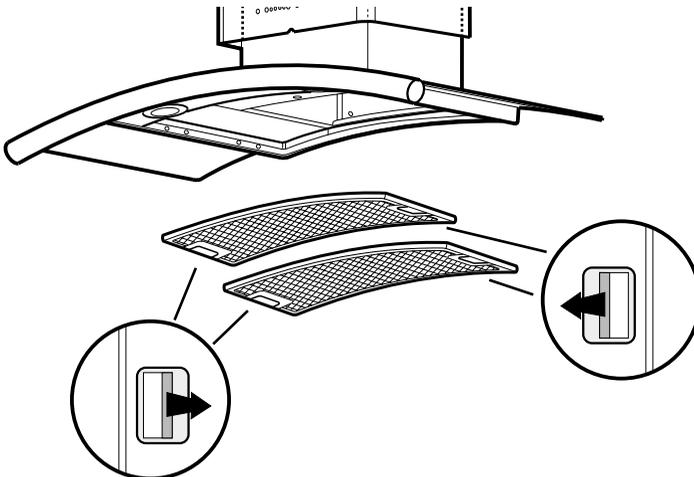

Fig. 4
- First, push both metal grease filter handles towards the centre, then extract the filter **M**, pulling downwards. **Fig. 4**. Repeat the steps with the second filter.
- Remove the metal grease filter. **Fig. 4**